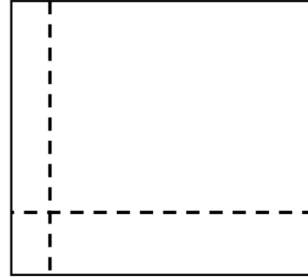

Figure 1: Chalk Lines
- Move the chalk lines to the corner or end of the room farthest from the doorway. These lines should be 2" or 3" from the wall depending on your reach (Figure 1).
- Do a dry layout of planks/tiles from the center line to the wall running parallel to the long direction of the planks/tiles to determine the width of the last row of planks/tiles. (Fig 1)